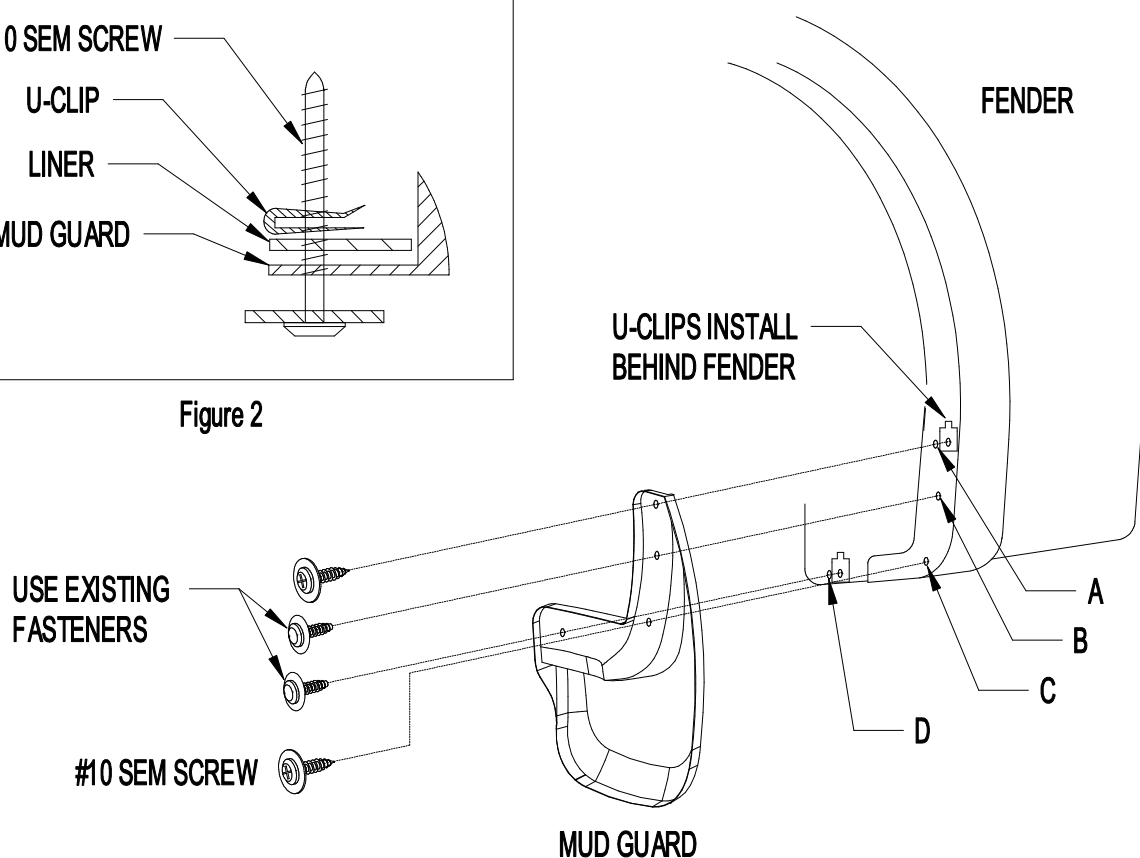

Figure 1
- #10 SEM screw (4)
- U-clip (4)
2. Remove existing fasteners from locations B and C (Figure 1).